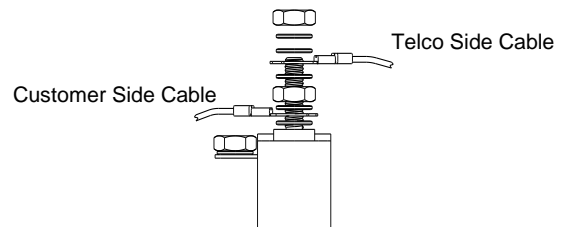

Figure 2
4.2.1 For binding post termination type protectors; terminate the Customer Side cable in between the bottom set of washer and bottom nut of the appropriate stud (one conductor to Tip and one to Ring) and tighten down. (See Figure 2.)
4.2.2 Terminate the Telco Side Cable under the top set of washers and the top nut of the appropriate stud (one conductor to Tip and one to Ring) and tighten down. (See Figure 2).